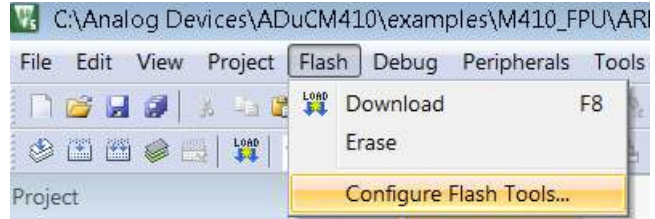

Figure 25. Keil Flash Dropdown Menu Options
- After opening the Keil IDE, click the **Flash** dropdown menu and select the **Configure Flash Tools** option (see Figure 25).